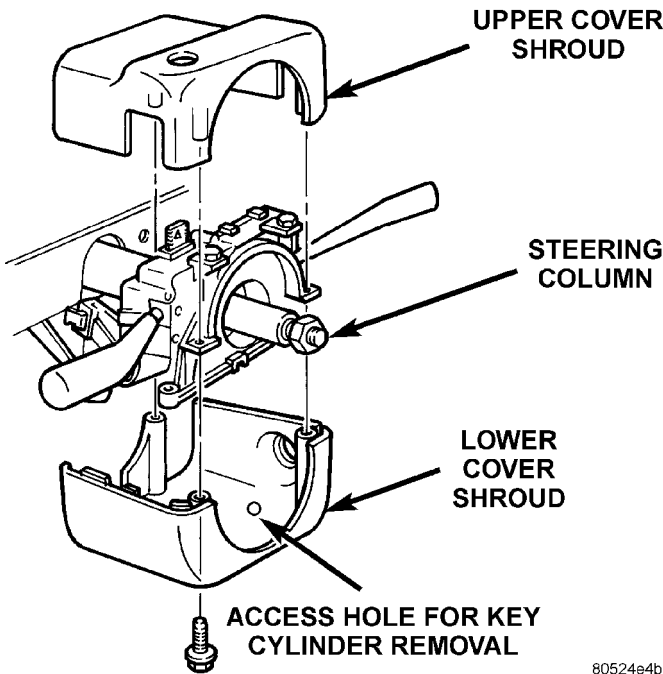
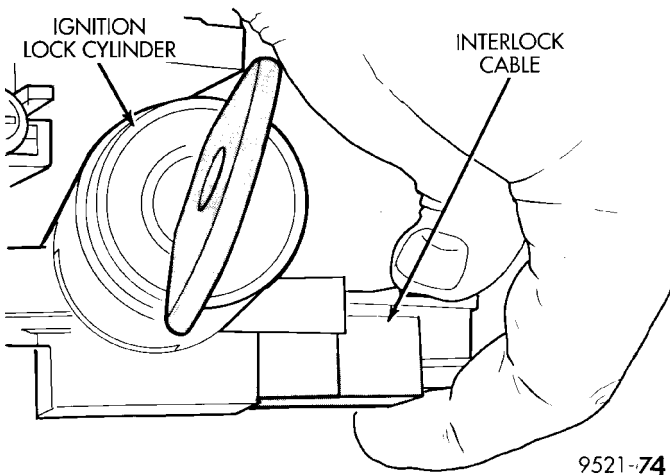

Fig. 25 Upper/Lower Shroud
Fig. 26 Interlock Cable and Connector
(9) Grasp the cover and pull rearward until the clips disengage.
(10) Remove two screws at the upper area of the column liner and lower left corner.
(11) Remove steering column cover and steering column cover liner.
(12) Lift up the top cover and cluster bezel until the clips disengage and separate to provide clearance.
(14) Pull out the key cylinder.
(15) Remove the three lower-to-upper shroud attaching screws through the bottom of the lower shroud (Fig. 25).
(16) Separate the upper and lower shrouds.
(17) Grasp the interlock cable clip and connector. Remove the cable from the interlock housing (Fig. 26).
(18) Unclip the cable from the retaining clip located within the wiring harness.